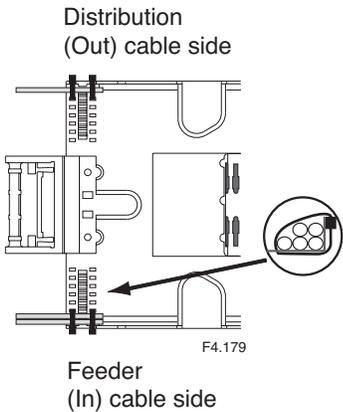

Figure 24
4. Wrap the end of the cut buffer tube with loose buffer tube (LBT) wrap and secure the tubes to the tray with tie wraps. Tubes will stack under the tie wrap as shown. (Figure 24)